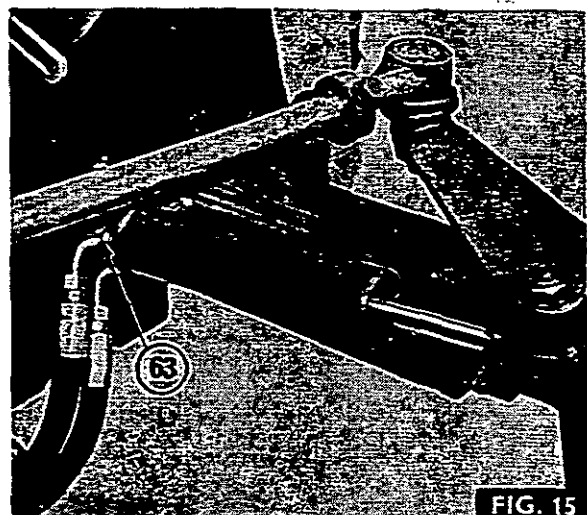

FIG. 15
4. Fig. 15. Refit the filler plug, then loosen the steel pipe (63) connected to a steering ram hose.
6. Remove the filler plug and when fluid can be seen through the filler hole, to be returning to the reservoir free of air bubbles, retighten the steel pipe (63).